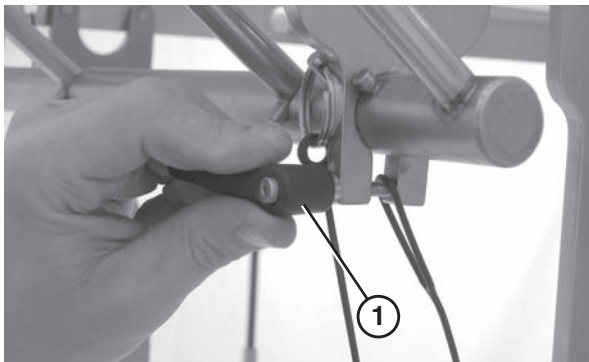

Figure 24
8. Secure the scraper by tightening the handle (Figure 24, item 1).